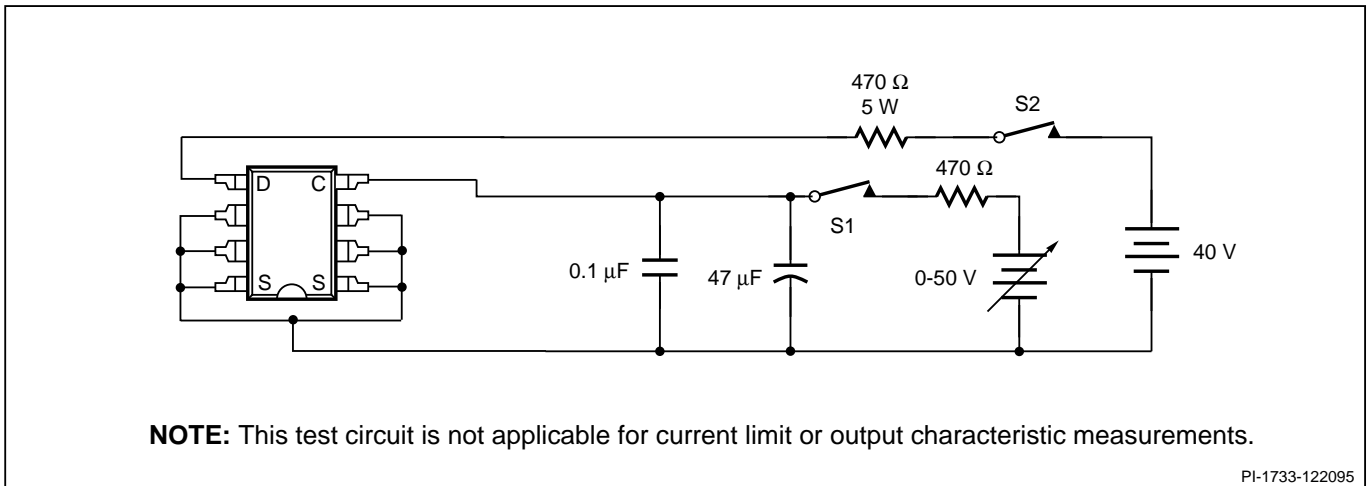

Figure 12. *TOPSwitch* General Test Circuit.
(Unless Otherwise Specified) See Figure 12 SOURCE = 0 V $T_j = -40$ to 125°C
- The breakdown & leakage measurements can be accomplished by using the *TOPSwitch* auto-restart feature. The divide-by-8 counter in the auto-restart circuitry disables the output MOSFET from switching in 7 out of 8 cycles. To place the *TOPSwitch* in one of these cycles, the following procedure can be carried out using the modified circuit of Figure 12:
The following precautions should be followed when testing *TOPSwitch* by itself outside a power supply. The schematic shown in Figure 12 is suggested for laboratory testing of *TOPSwitch*.